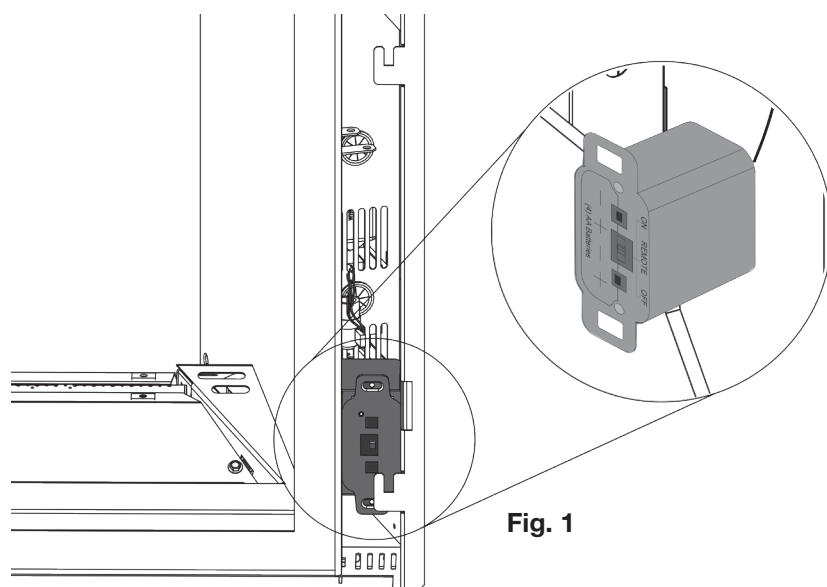

Fig. 1
4 AA batteries must be installed into the receiver before the appliance can operate by battery backup. The receiver is located in the bottom right corner of the appliance (**Fig. 1**).
2. Remove the 1 screw holding the bracket in place (**Fig. 1**). Lift the bracket up and out of the slots, lifting it through the opening between the firebox and the appliance's outer shell (**Fig. 2**).
5. Resecure the 1 screw to hold the bracket and receiver in place (**Fig. 1**).